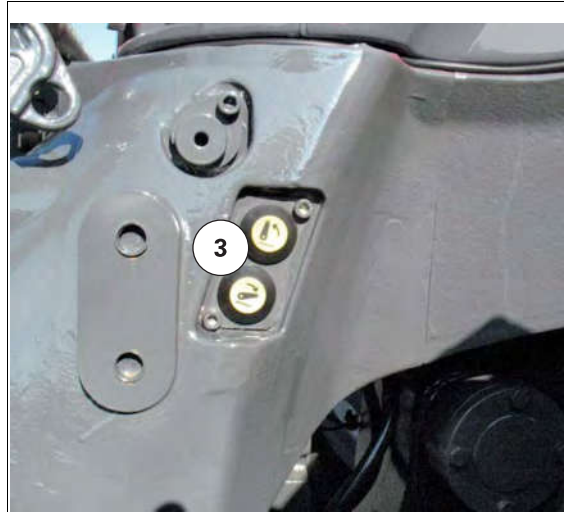

Fig. 14.
The external lifting/lowering controls (3) *fig. 14* can only operate with the engine running.